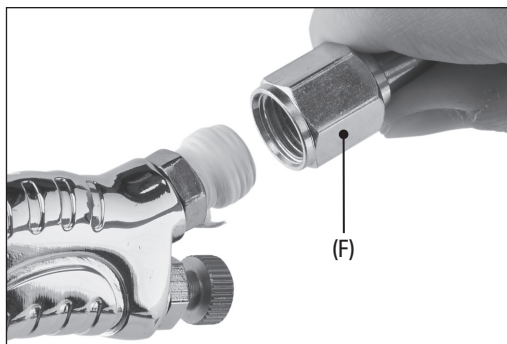

Fig. 9
4. Screw the 1/4" air line coupler (F) onto the spray gun air inlet (Fig. 9).